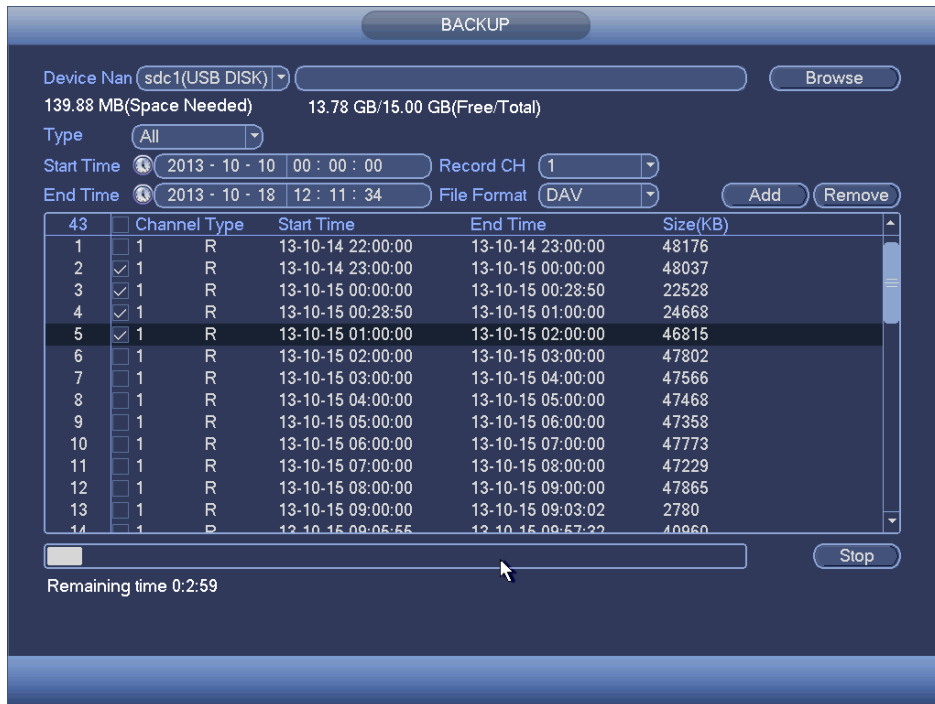

Figure 4-108
Step 5 Click Start button, system begins copy. At the same time, the backup button becomes stop button. You can view the remaining time and process bar at the left bottom. See Figure 4-108.